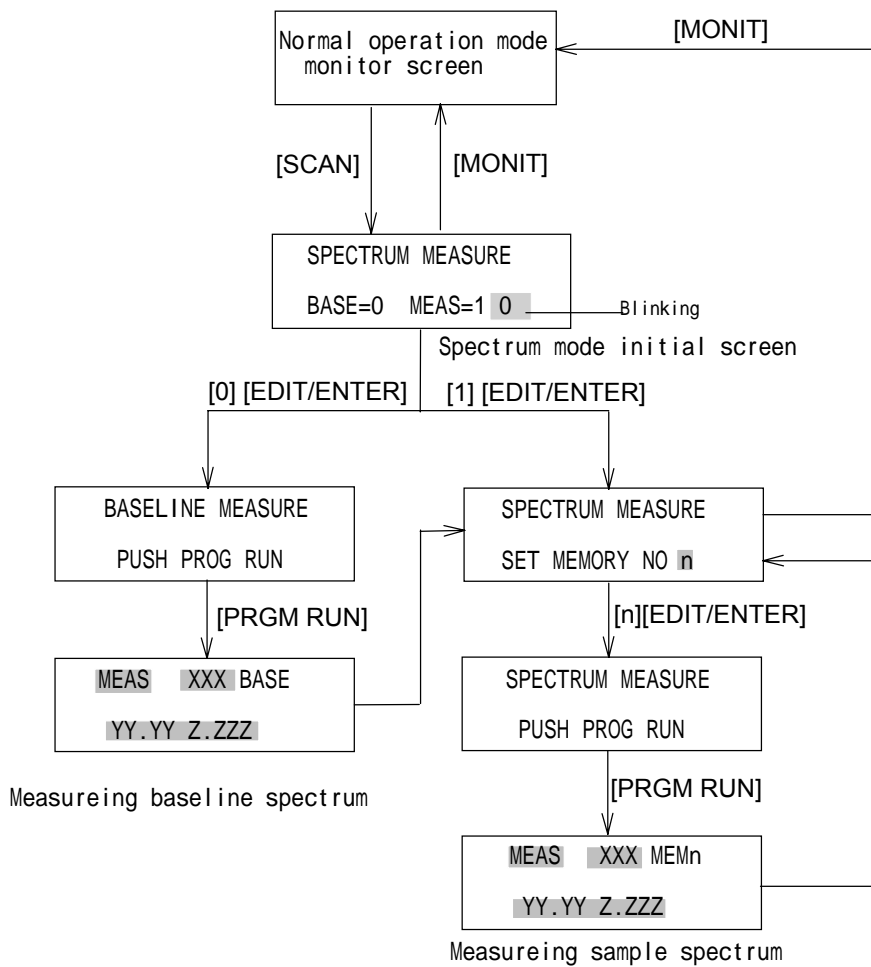

Figure 7.1 Key Operations and Corresponding Displays in SPECTRUM mode
SPECTRUM mode key operations are summarized below (refer to Fig. 7.1):
- 1) Display the BASE CORRECTION display (refer to Fig. 7.1).
- 1) Display the SPECTRUM MEASURE display (refer to Fig. 7.1).